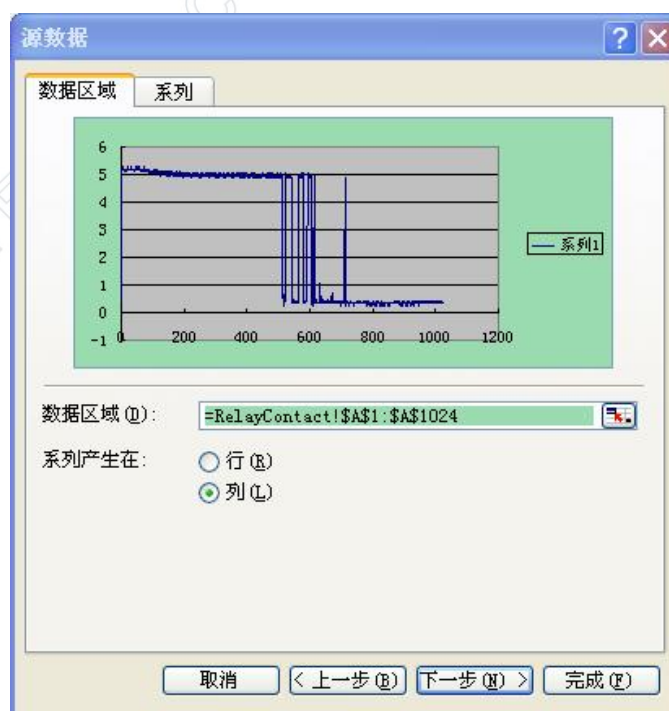

Fig. 14
- Select the sample data as chart data source (Fig.14).